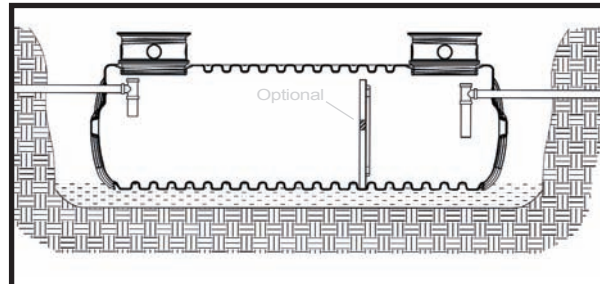

**FIG.2 Gasket Detail**
- Install provided rubber gasket in inlet and outlet ports. (Fig. 2)